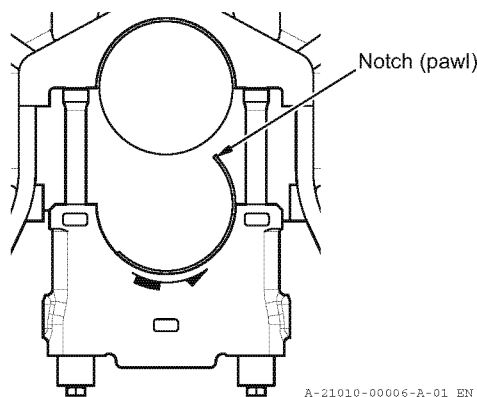

Fig.4 Removing the bottom bearing
15. Remove the bottom main bearing. (Refer to Fig. 4.)